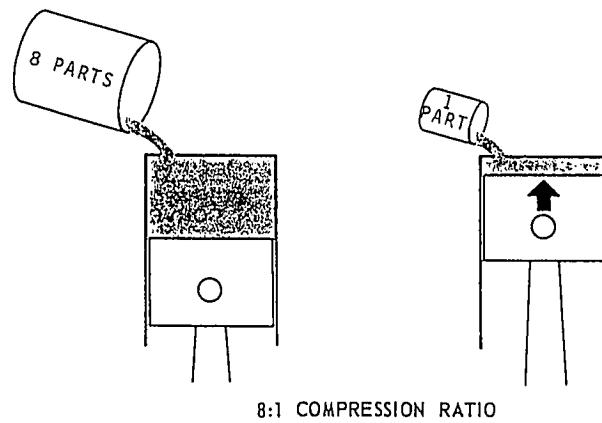

Fig. 11 — Compression Ratios Tell How Much The Fuel-Air Mixture Is Compressed By Volume
**Compression ratios** tell us how much the fuel-air mixture is compressed by volume. Fig. 11 shows an imaginary case.